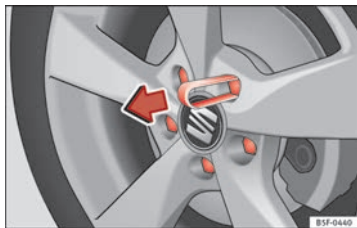

Fig. 170 Wheel: wheel bolts with caps.
- Fit the plastic clip (vehicle tools) over the cap until it clicks into place → Fig. 170.